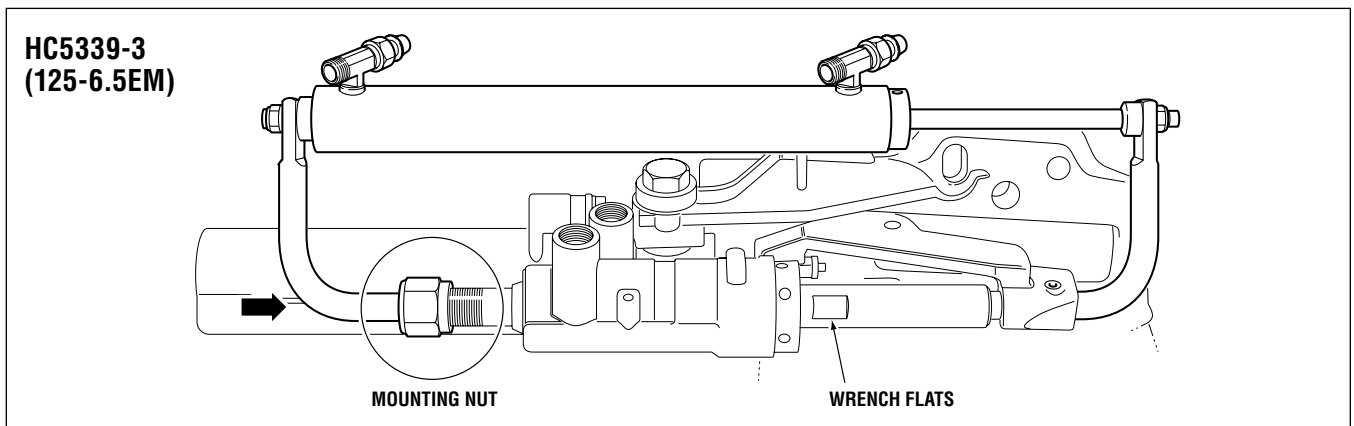

Figure 18.
4. Extend HC5339-3 cylinder as required and insert the short rod into the tilt tube as shown in figure 18.